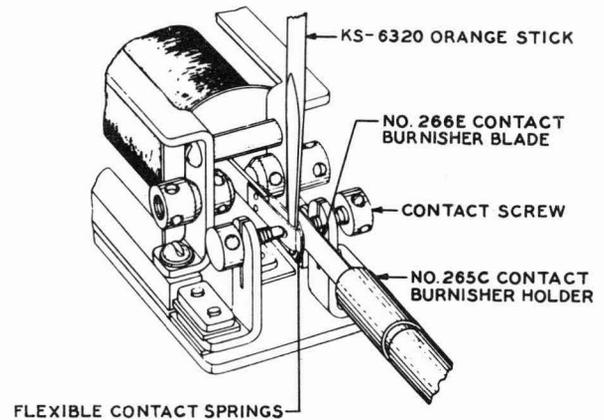

Fig. 39 – Method of Burnishing Contacts on 206-, 209-, 215-, 231-, 239-, 255-, and 280-type Relays
Examine the contacts to determine whether filing is necessary on both armature and stationary contacts or on only one or the other. If both contacts require filing, insert the KS-2662 or KS-2663 file horizontally between the armature and the stationary contact as shown for the burnisher in Fig. 39. Place the flattened point of the KS-6320 orange stick between the flexible contact springs and hold the spring against the file so that the file is held between the armature and the associated contact screw. File both contacts in this manner until the pits and buildups are entirely removed from both the contacts. While filing, take care to hold the file parallel to the armature. Take care not to remove contact metal unnecessarily. If, after the pit has been removed from one contact, the other contact requires additional filing or if only one contact is to be reconditioned, file this contact separately. In the case of armature contacts, use the orange stick as a stop. After the pits or buildups have been removed from both contacts, burnish the contacts as described in 6.02 and then brush them as covered in 4.03. Do not in any case attempt to produce a rounded surface on the stationary contacts.
6.02 Burnishing Contacts: Insert a clean No. 266E blade (see 3.01) in the No. 265C contact burnisher holder with the wide end outward. Insert the blade horizontally between the armature and the stationary contacts as shown in Fig. 39. Place the flattened end of the KS-6320 orange stick between the flexible contact springs and hold the flexible contact spring against the burnisher, as shown in the figure. Burnish the contacts by moving the burnisher back and forth. While burnishing, take care to hold the burnisher parallel to the armature.